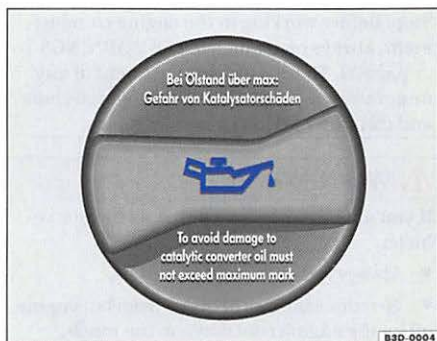

Fig. 7 In the engine compartment: engine oil filler cap
- Unscrew the oil cap ⇒ fig. 7 from the cylinder head cover. You will see the oil can symbol on top of the oil cap. If you are not sure, contact your authorized Volkswagen dealer for assistance.